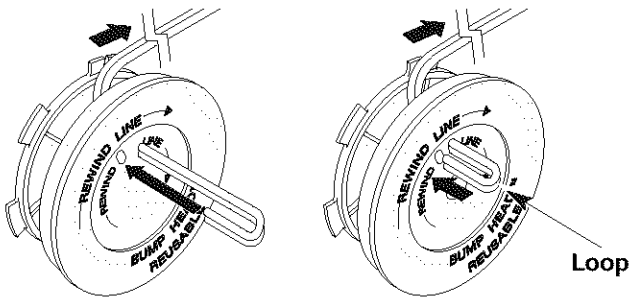

Fig. 22
9. Insert the end of the line into the open hole in the inner reel and pull the line tight to make the loop as small as possible (Fig. 22).